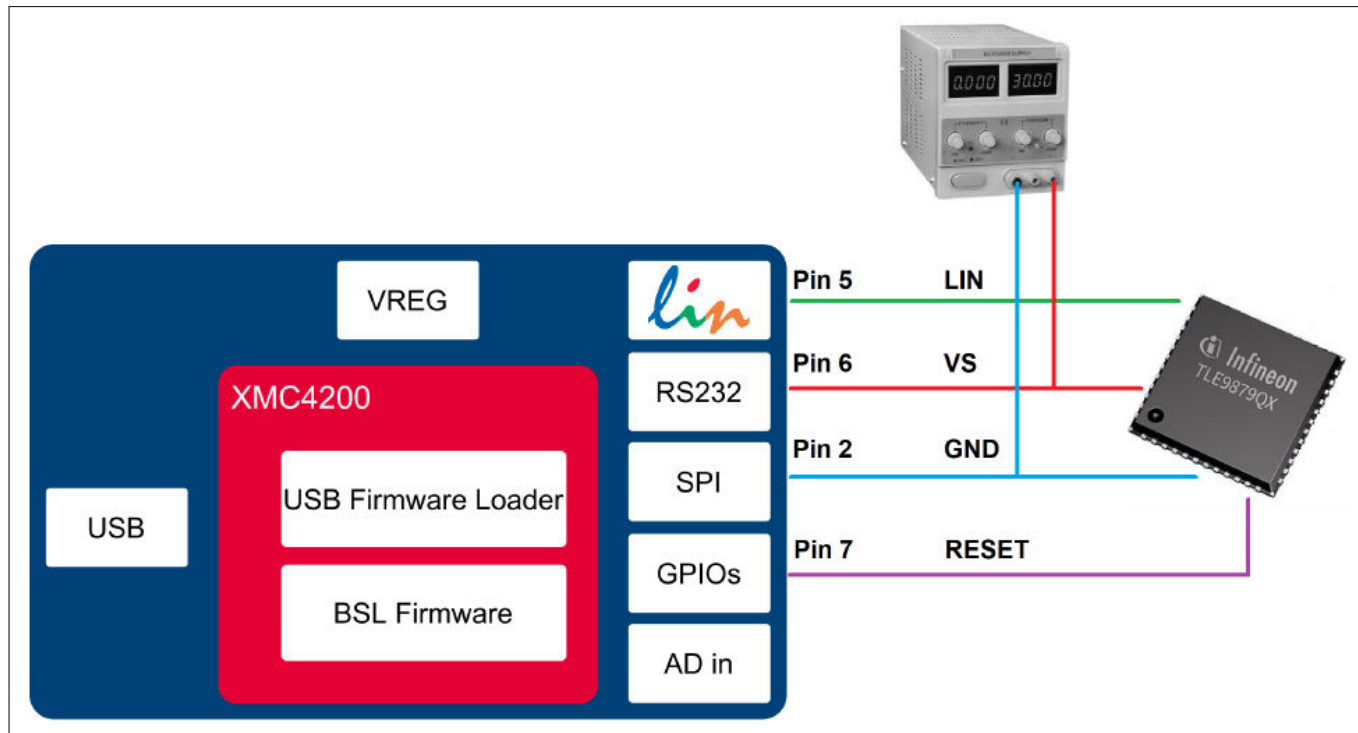

Figure 6 Normal LIN and FastLIN connection, with reset, target supplied by separate power supply
Figure 6 shows a connection example where the target device and also the μIO-Stick is supplied by an separate power supply. Since in this case the μIO-Stick would not be able to perform a VS power cycling to restart the device it is wise to connect the reset line as well. If the target device stays in BSL mode upon power-up, such as for a new, unprogrammed device then the reset line is not required.
- Off - the µIO-Stick integrated charge pump is switched off, VS must be supplied by the target system, see also Figure 6 on page 10.